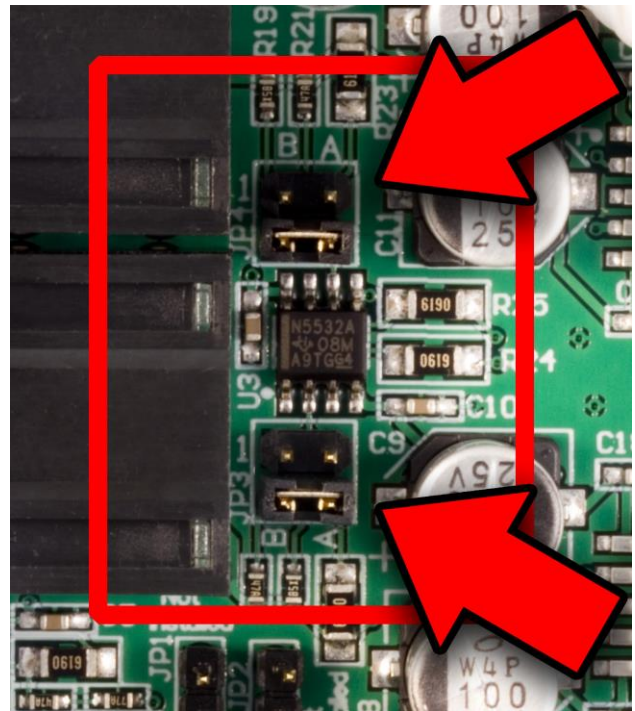

Figure 5 - 10 dB
- **10 dB** attenuation - see **Figure 5** (Factory Default)